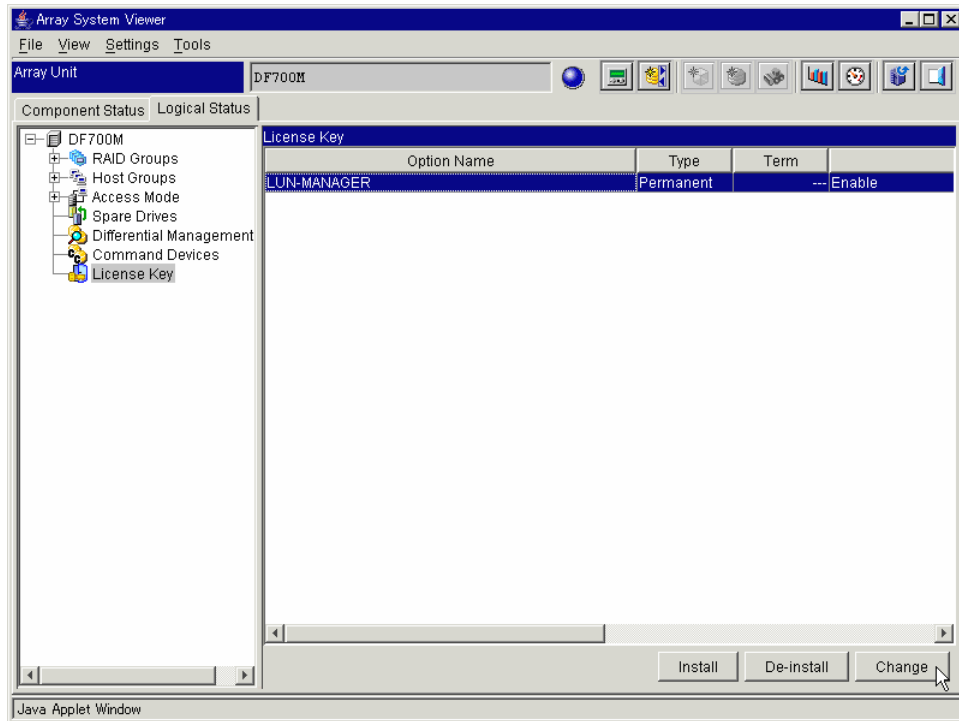

Figure 6.24 Array System Viewer - License Key
1. Click the **Logical Status** tab on the Array Unit screen. See Figure 6.24.